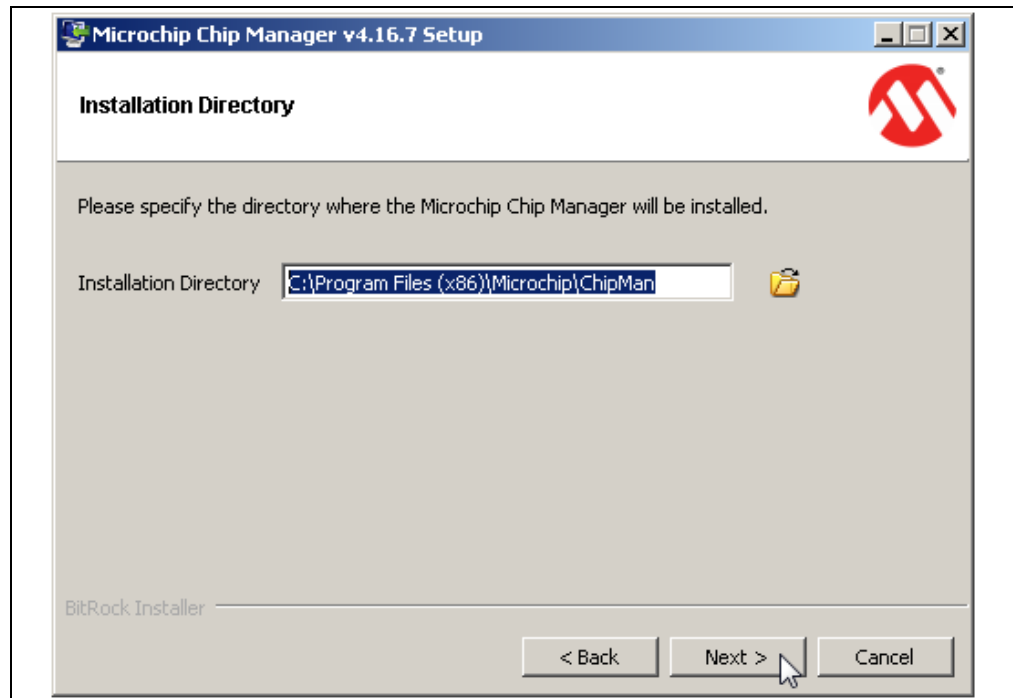

FIGURE 2-4: *Installation Directory Dialog.*
8. On the Installation Directory dialog, browse for the desired location or click **Next** to install in the default location (see Figure 2-4).